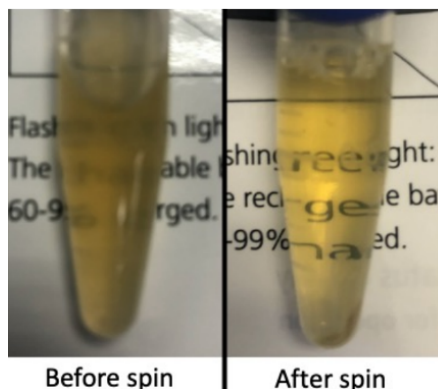

Figure 4: Example of translucent lysate after spinning.
**Note: The supernatant should be translucent at this point. If the sample is still opaque (cloudy) spin for longer. This is important for removing cellular debris. See Figure 4.**